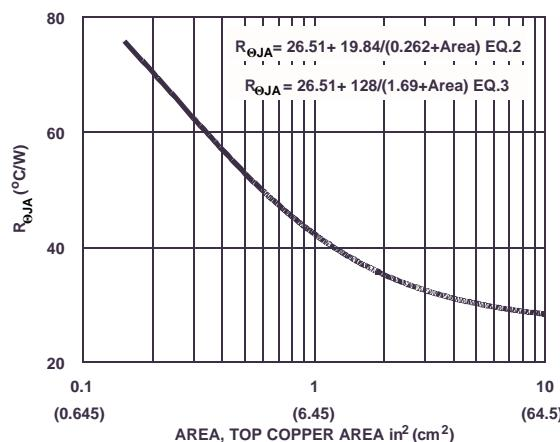

Figure 21. Thermal Resistance vs. Mounting Pad Area
**onsemi** provides thermal information to assist the designer's preliminary application evaluation. Figure 21 defines the  $R_{\Theta JA}$  for the device as a function of the top copper (component side) area. This is for a horizontally positioned FR-4 board with 1oz copper after 1 000 seconds of steady state power with no air flow. This graph provides the necessary information for calculation of the steady state junction temperature or power dissipation. Pulse applications can be evaluated using the **onsemi** device Spice thermal model or manually utilizing the normalized maximum transient thermal impedance curve.
Thermal resistances corresponding to other copper areas can be obtained from Figure 21 or by calculation using Equation 2 or 3. Equation 2 is used for copper area defined in inches square and equation 3 is for area in centimeter square. The area, in square inches or square centimeters is the top copper area including the gate and source pads.